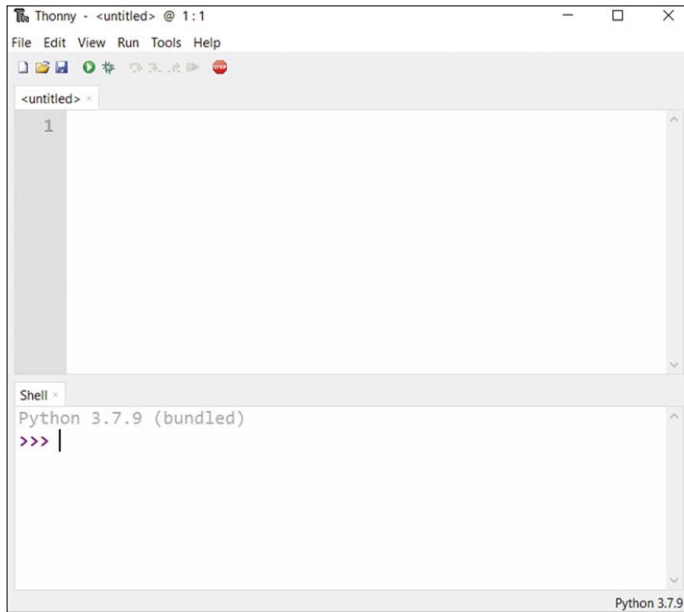

Figure 2.22: Thonny startup screen on the PC.
- The startup screen of Thonny on your PC is shown in Figure 2.22.